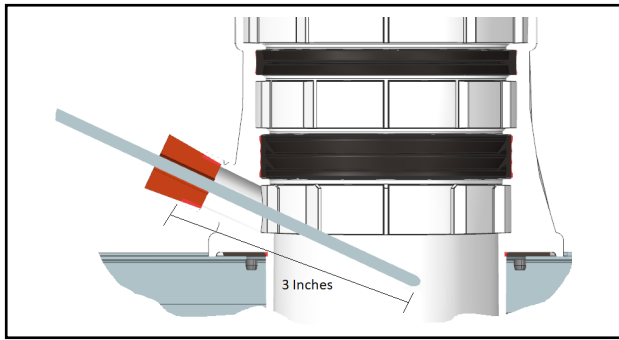

Fig. 1
- Sample probe must be inserted sufficiently, and ensure sampling is correct when CO₂/O₂ readings are measured (refer to Fig.1 for probe position and insertion).